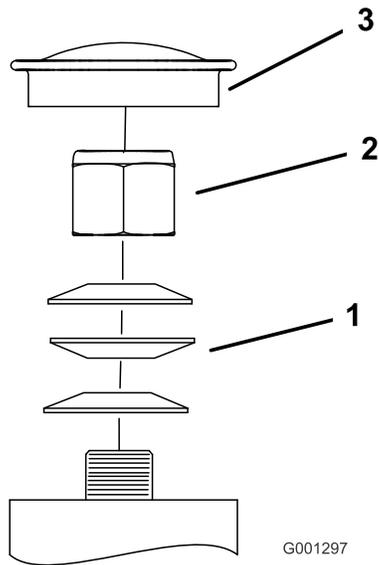

Figure 74
3. Remove the dust cap from caster and tighten the locknut (Figure 74).
4. Tighten the locknut until the spring washers are flat, and then back off a 1/4 turn to properly set the preload on the bearings (Figure 74).
**Important:** Make sure that the spring washers are installed correctly as shown in Figure 74.
5. Install the dust cap (Figure 74).